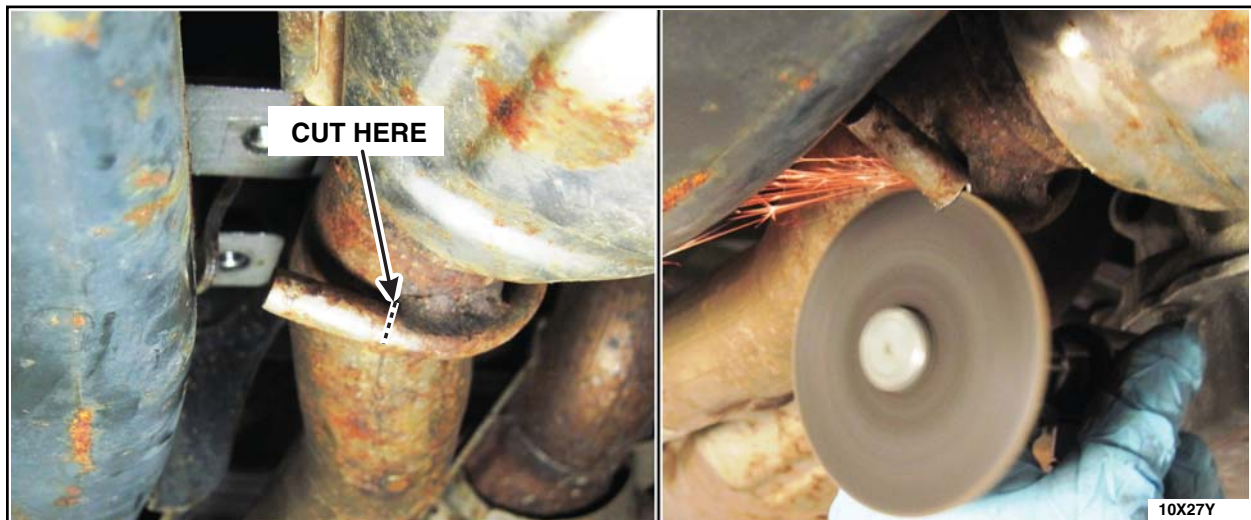

FIGURE 10
11. On some vehicles, the exhaust hanger may protrude past the weld and interfere with the installation of the reinforcement bracket. If present, cut off the portion of the exhaust hanger that protrudes past the weld. See Figure 10.